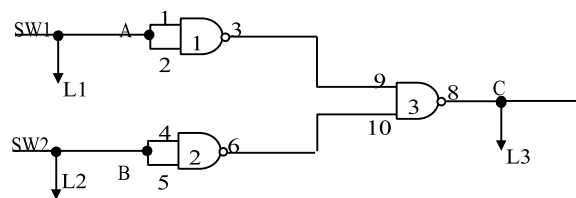

Figure 2-4
15. Connect the circuit shown in Figure 2-4. Monitor the inputs and output on LED indicators L1, L2, and L3. With SW1 (A) and SW2 (B), apply the input shown on Table 6. Record the output state corresponding to each set of inputs. Use positive logic.
16. Study Figure 2-4 and Table 6. What logic function is being performed? **OR LOGIC**
17. Modify your circuit in Figure 2-4 by adding the fourth gate in the 7400 to the output as shown in Figure 2-5. Only the output change is shown. The rest of the circuit stays as in Figure 2-4. 1